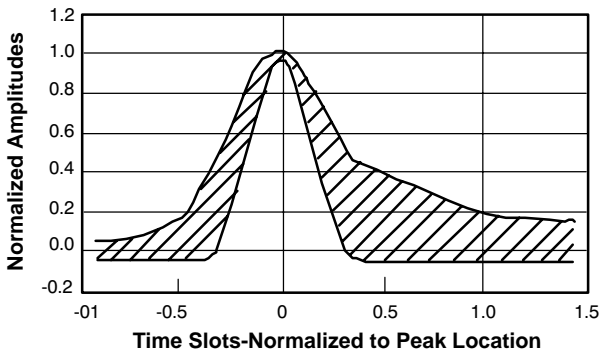
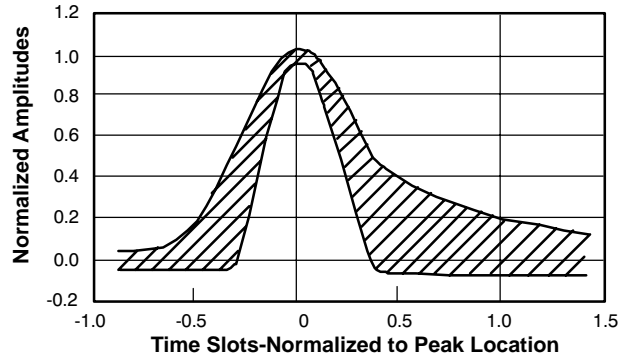

Figure 3. DSX-3 Isolated Pulse Template for ANSI T1.404 Standards
Figure 4. DSX-3 Isolated Pulse Template for Bellcore TR-NWT-000499
Currently, two isolated pulse template requirements exist: the ANSI T1.404 pulse template (*See Table 3 and Figure 3*) and the Bellcore TR-NWT-000499 pulse template. The pulse transmitted by the XRT7296 meets these templates.
Pulse Shape	An isolated pulse must fit the template in Figure 3 or Figure 4 . ¹ The pulse amplitude may be scaled by a constant factor to fit the template. The pulse amplitude must be between 0.36Vpk and 0.85Vpk, measured at the center of the pulse.
- ¹ The pulse template proposed by G.703 standards is shown in *Figure 4* and specified in *Table 4*. The proposed G.703 standards further state that the voltage in a time slot containing a 0 must not exceed \pm 5% of the peak pulse amplitude, except for the residue of preceding pulses.
Table 3. DSX-3 Pulse Template Boundaries for ANSI T1.404 Standards (See *Figure 3*.)
Table 4. DSX-3 Pulse Template Boundaries for Bellcore TR-NWT-000499 Standards (See *Figure 4*)